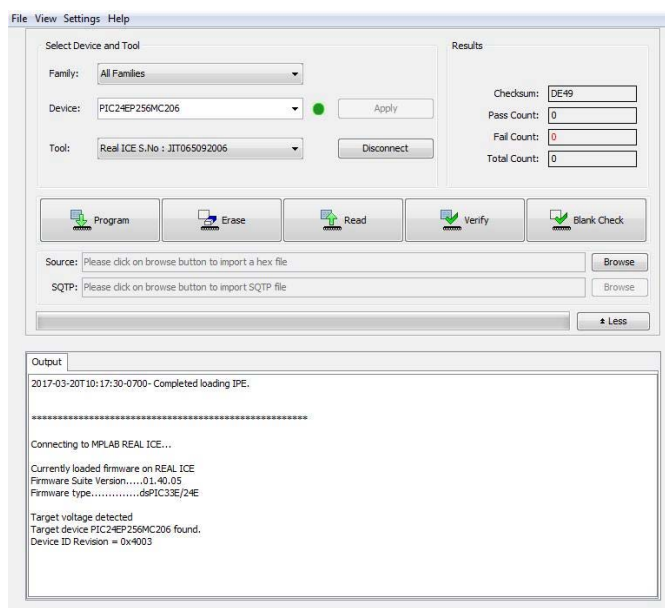

Figure 14: MPLAB IPE successfully connected to GPSRM 1
3. Launch the IPE. Under **Tool**, select the programming tool you have available (typically a PICKitTM) and click on **Connect**. Once successfully connected to a powered GPSRM 1, the IPE's **Output** window will emit a "Target device PIC24EP256MC206 found." message. See Figure 14 for a successful connection when using a RealICETM in-circuit emulator.